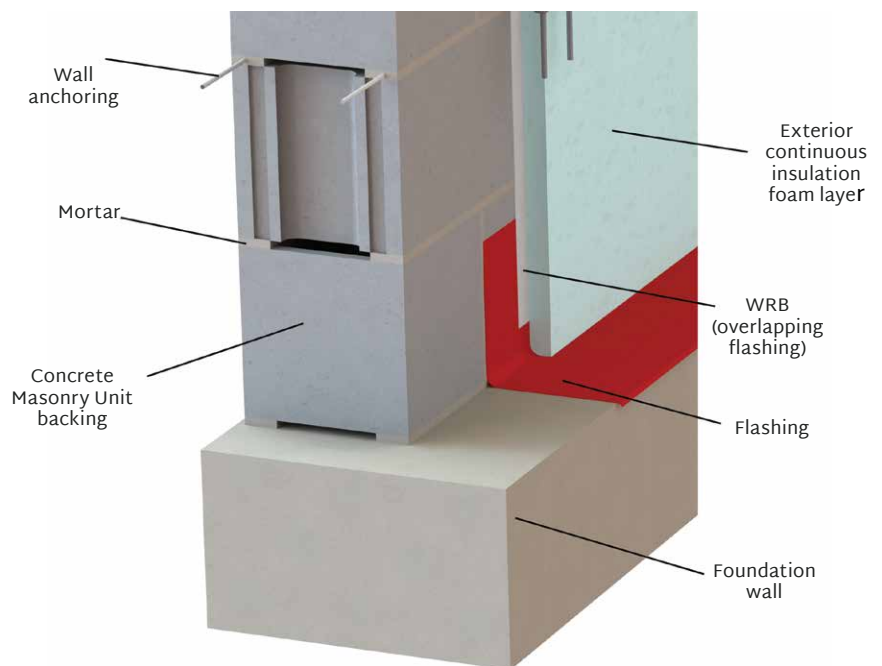

Figure 1. WRB layer overlapping flashing
- Be applied over the sheathing on both vertical and horizontal portions of the wall (see Figure 1)
The WRB should be installed starting at the bottom of the wall, overlapping the flashing and working upward. The WRB should overlap horizontally 2" to 4" and vertically a minimum of 6" in shingle fashion. Inside and outside corners must be overlapped a minimum of 16". It is very important to wrap all corners with WRB layer and to overlap this on the flashing previously installed, as shown in Figure 1.